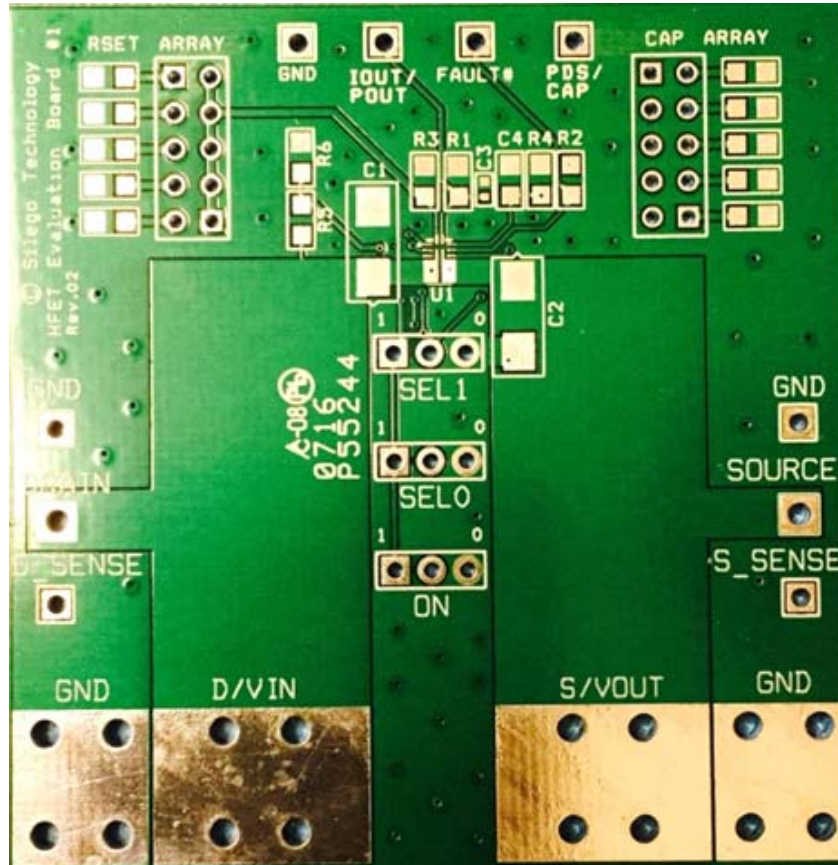

Figure 17. SLG59H1006V Evaluation Board
1. Since the VIN and VOUT pins dissipate most of the heat generated during high-load current operation, it is highly recommended to make power traces as short, direct, and wide as possible. A good practice is to make power traces with an absolute minimum widths of 15 mils (0.381 mm) per Ampere. A representative layout, shown in Figure 17, illustrates proper techniques for heat to transfer as efficiently as possible out of the device;
A HFET1 Evaluation Board for SLG59H1006V is designed according to the statements above and is illustrated on Figure 17. Please note that evaluation board has D\_Sense and S\_Sense pads. They cannot carry high currents and dedicated only for  $R_{DS(ON)}$  evaluation.